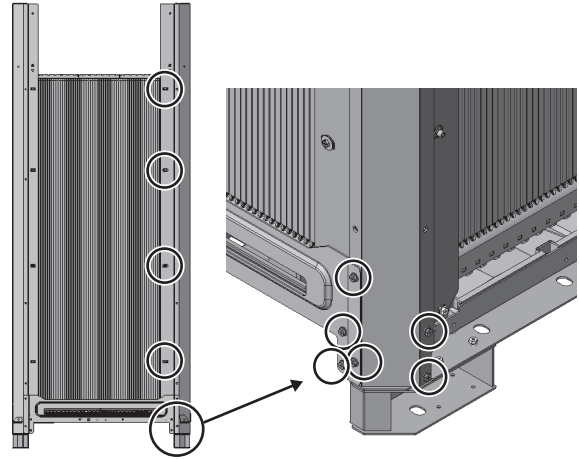
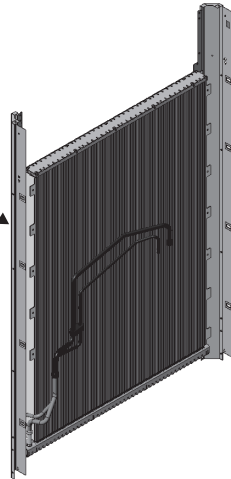

Fig. 104 Right
Fig. 105 Rear heat exchanger unit drawing
(4) Remove the screws that secure the rear and right pillars. (10 screws: Fig. 104 and Fig. 105)